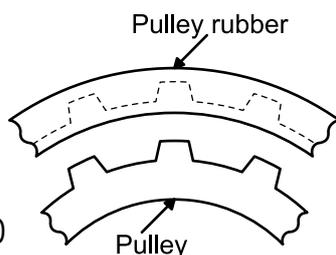

Fig.10
(4)Extend a new pulley in the circumferential direction and fit it into the highs and lows of the pulley in sequence. [ Fig.10 ]